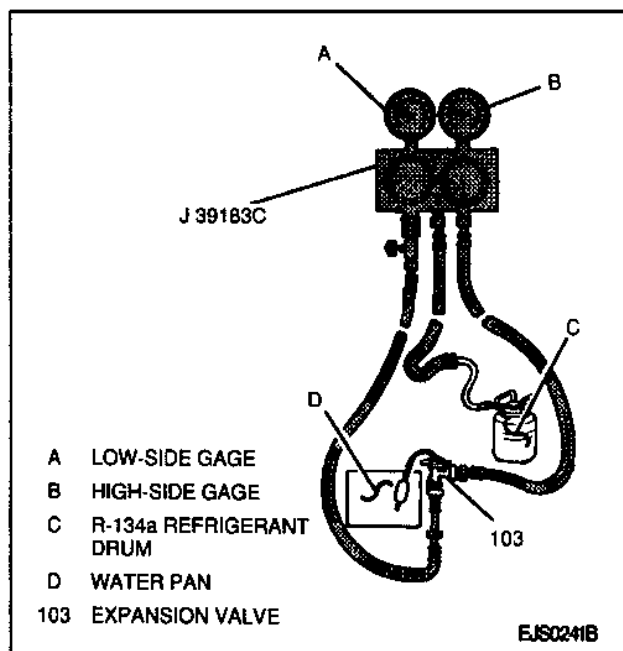

Figure 28—Expansion Valve Operation
- A. Connect the expansion valve to a J 39183-C; connect the gage set's charging hose to a R-134a refrigerant drum (Figure 28).